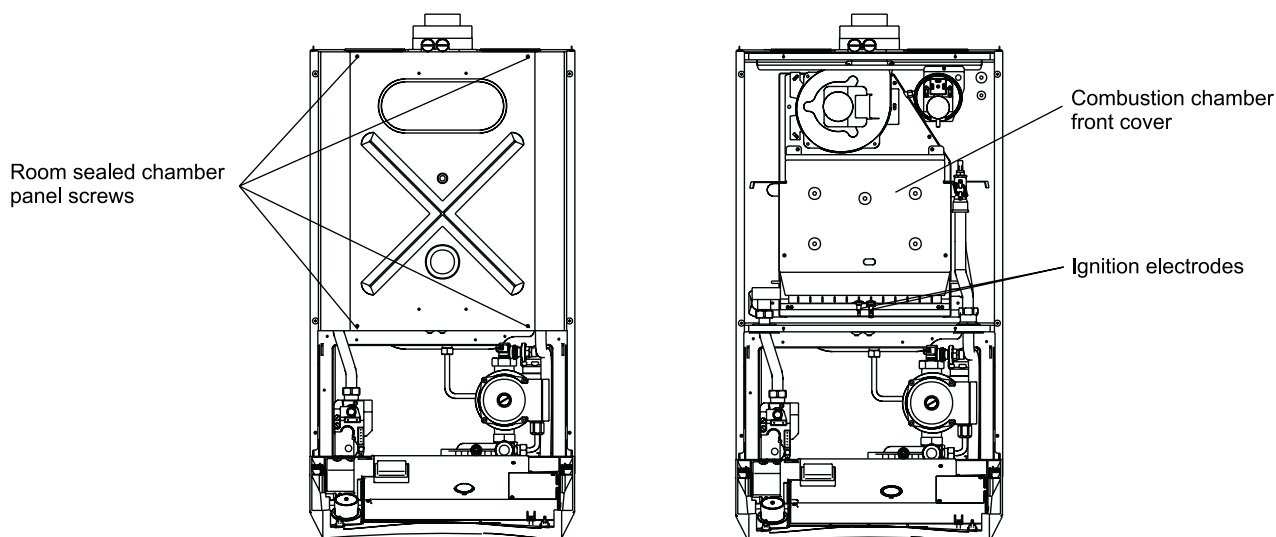

Fig. 17
7.2 PREPARE FOR SERVICING - Fig. 17
6. Place the front case panel in position as shown in Fig. 17 and secure in position.
8.1 GENERAL ACCESS - Fig. 17